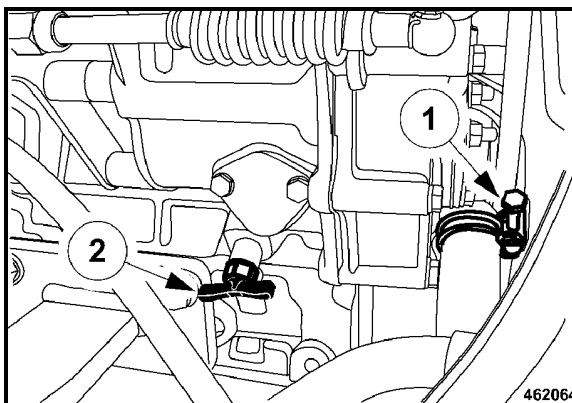

Fig. 162
- Open the clamp (1) (Fig. 162) and pull off the radiator hose.
- Open the shut-off cock (2).